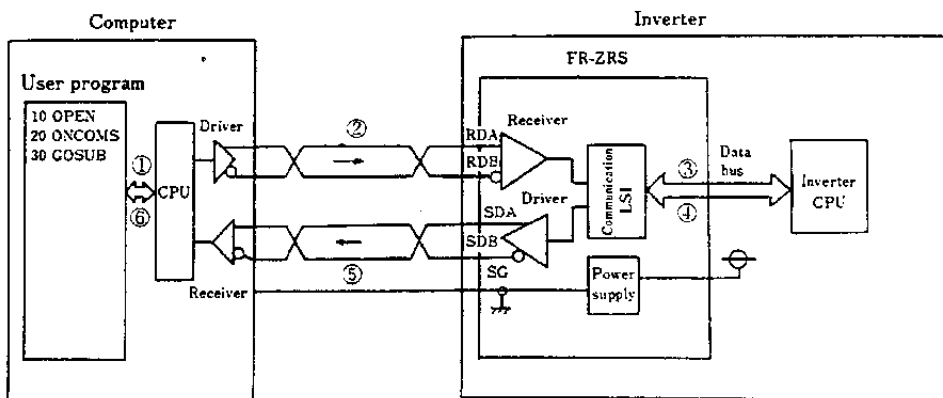

Fig. 12.6
(1) General operation (See Fig. 12.6.)
- ① The computer CPU decodes and executes the user program.
- ② Communication data in accordance with the user program is converted into serial signals in the computer and is then converted into the interface level conforming to RS485 standard and transmitted to the inverter by the driver.
- ③ The communication data is received by the receiver in the FR-ZRS unit, converted into parallel signals by the communication LSI, and entered into the inverter CPU.
- ④ The inverter CPU checks the data for errors, processes the data in accordance with the check result, and creates reply data.
- ⑤ The reply data is converted into serial signals by the communication LSI in the FR-ZRS unit and is then converted into the RS422 or RS485 interface level and returned to the computer by driver.
- ⑥ The reply data is received by the receiver in the computer and entered into CPU, which then reads and checks the data in accordance with the user program.
(2) Function block diagram